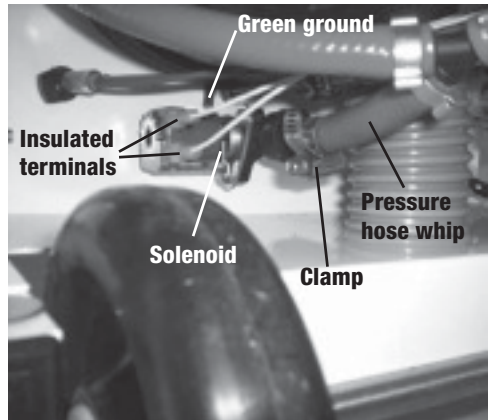

Figure 11: Removing solenoid
3. Pull both insulated terminals off solenoid (fig. 11).
6. Loosen clamp and remove pressure hose whip (fig. 11).
7. Unscrew and remove green ground wire (fig. 11).